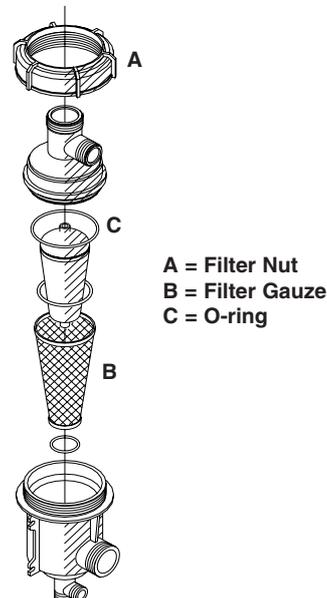

Fig 47
- 1 Unscrew the filter nut (A Fig 47) and open the filter.
- 2 Check the filter gauze (B Fig 47). Clean and check there are no residues on any part of the filter hoses. For Replacement Parts, see Pages 38-39 .
- 3 Lubricate the O-ring (C Fig 47).